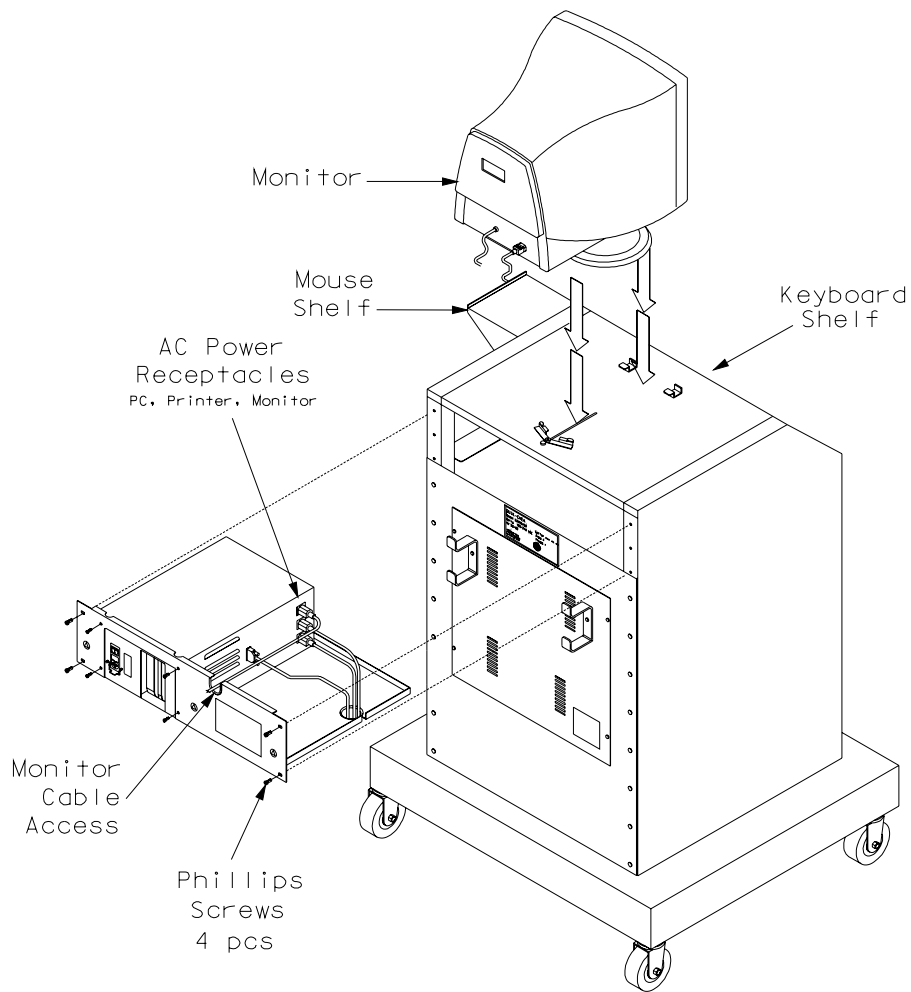

Figure 1
4. The back panel is secured with four (4) phillips head screws. Slide the back panel from the rear of the console a few inches to access the power receptacle. See Figure 1.